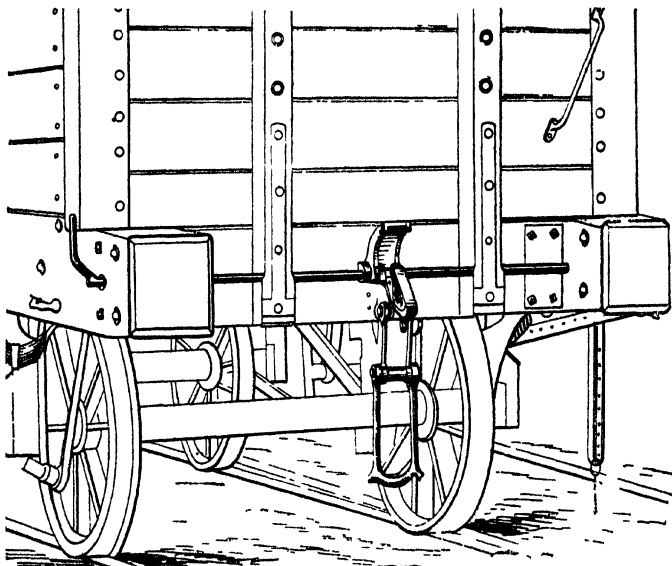

Fig. 33.—Darling's Coupling Co., Glasgow (1st prize, automatic).
*1st prize, automatic, £100 (Fig. 33).*